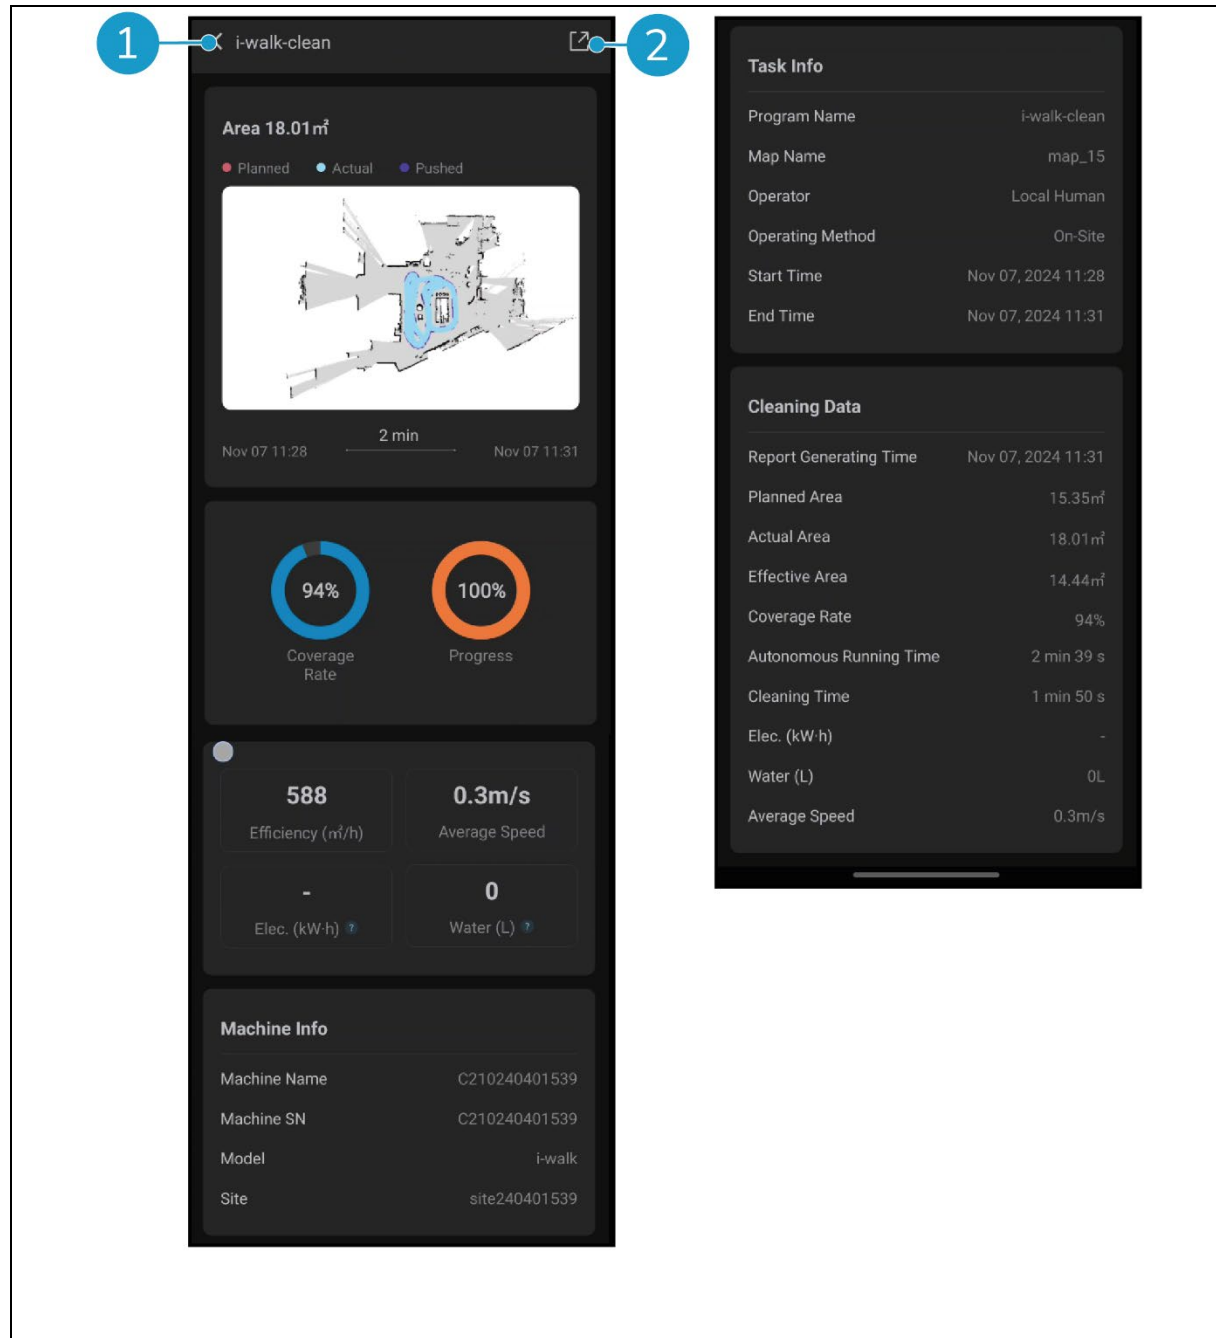

Figure 35
- Tap the [\[Share\]](#) button (Figure 35, pos. 2) to share or export the cleaning task information.